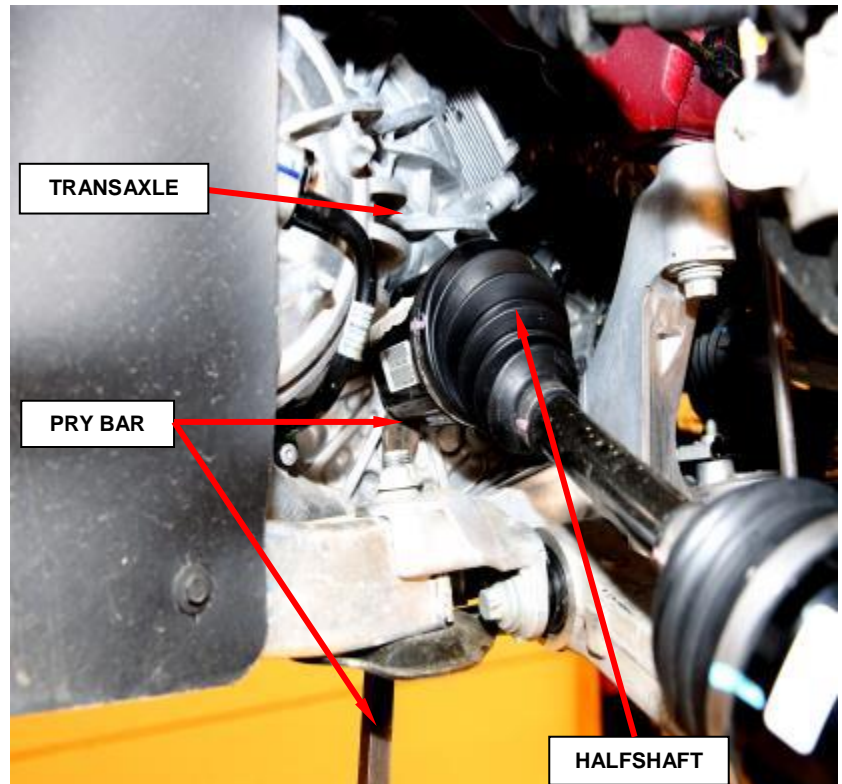

Figure 5 - Halfshaft to Transaxle
- Using a pry bar or equivalent tool release the halfshaft from the transaxle and remove the halfshaft from the vehicle (Figure 5).